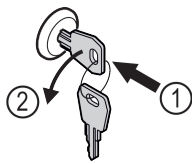

Fig. 181
- Insert the key. Fig. 181 (1)
- Turn the key anticlockwise by 90°. Fig. 181 (2)